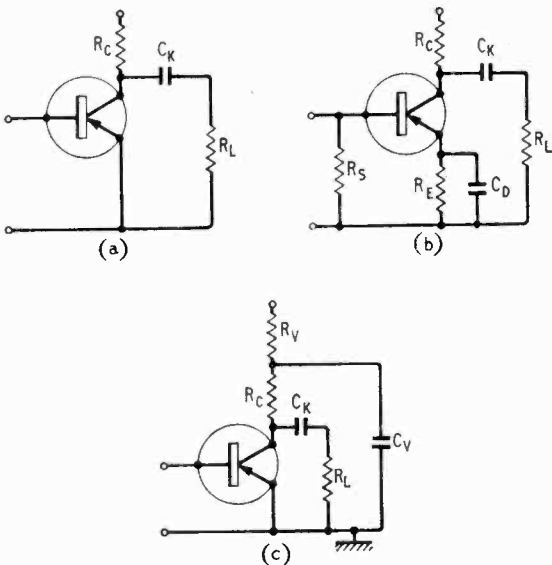

Fig. 30. Low-frequency response considerations.  $C_K$  in (a) and  $C_D$  in (b) both cause a fall-off at low frequencies. Circuit (c) is one method of correction.
The low-frequency cut-off (or percentage droop—see (3)) of a linear pulse amplifier is not usually much dependent upon the characteristics of the transistors; it is determined by the same considerations as apply to extending the low-frequency bandpass limit of a conventional RC-coupled audio amplifier. The main limiting factors are the interstage coupling capacitor,  $C_K$ , shown in Fig. 30 (a), and the emitter decoupling capacitor,  $C_D$ , in Fig. 30 (b). The design values of  $C_K$  and  $C_D$  are usually chosen to give not more than 1dB attenuation each at the lower bandwidth limit,  $f_o$ , aimed at, so that in combination they give less than 3dB attenuation. A formula for the interstage coupling capacitor on this basis is:
Another method of low-frequency compensation well known from valve practice can also be used with transistors as shown in Fig. 30(c). Here  $R_C$  and  $C_V$